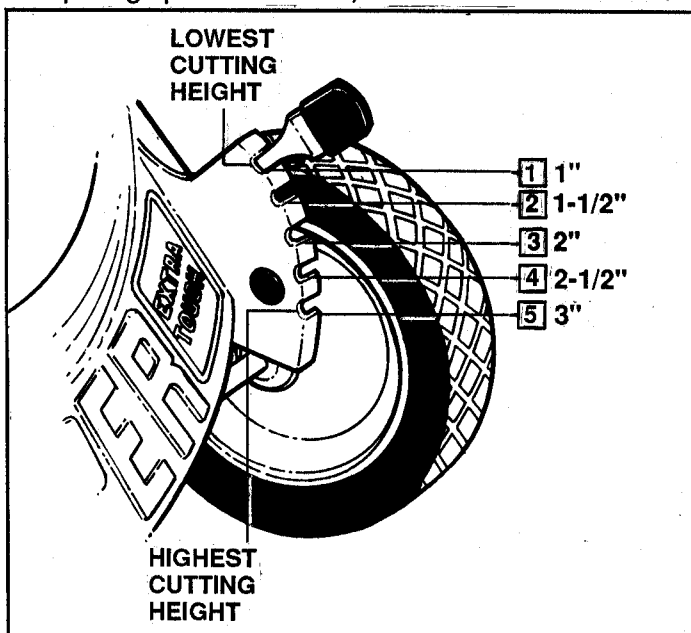

FIGURE 1.3
Always stop the engine and wait until the mower blade comes to a complete halt before readjusting the cutting height! To readjust, move the height adjusting latch on each wheel outward and slide each, one notch at a time, to the position desired. Positioning the latches in the highest notch sets the mower at the lowest cutting height while the lowest notches sets it in the highest cutting position. Refer to Figure 1.3 for the approximate cutting height afforded by each of the five latch positions. For best results, set both latches on one side first, then go to the other side and set these latches into corresponding notches. Before resetting the rear latches into lower notches, lift the weight of mower off the rear wheels first by pulling up on the handle, then reset.
- A. **MOWING/VACUUMING HINTS:** The cutting deck should be level under all conditions. As a general rule, never cut more than 1/3 off the height of the grass. If, for example, the grass has grown 4 inches tall, set the mower height latches in the lowest position which establishes the cutting height at approximately 3". (Refer to Figure 1.3), thereby cutting about 1" off the grass and staying well within the 1/3 off limit. If you want the grass shorter, wait a few days, then recut to the lower height. If cut too short, the grass will expend more energy for development of new leaf structures and less for a healthy root system and will be more subject to burning. On the other hand, if allowed to grow too long, the lower portion will be shaded and, as a result, will discolor. In dry periods, allow the grass to grow longer than you normally would.